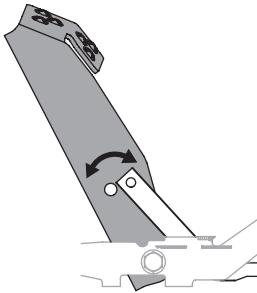

Figure 37
3. Position the pedal to the optimal position based on operator preference. See Figure 37.